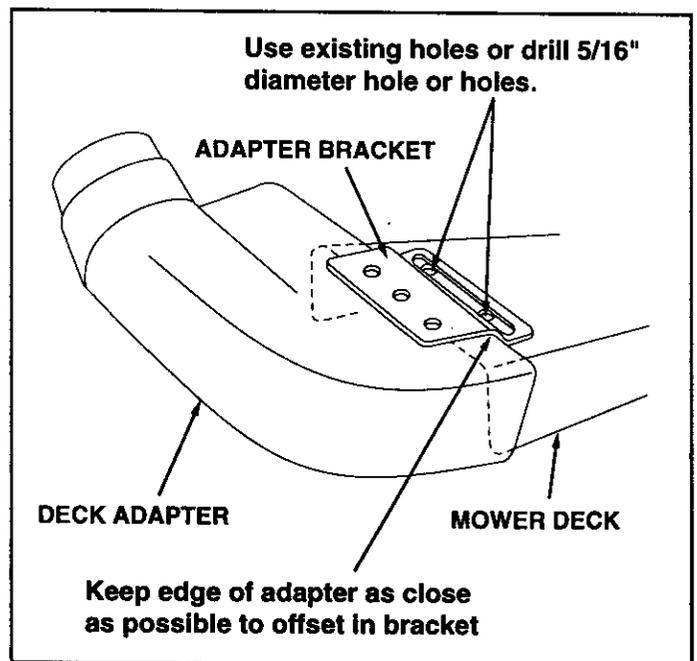

FIGURE 30
- Holding the adapter bracket and the deck adapter together, position the deck adapter on the mower deck. Keeping the edge of deck adapter as close as possible to the offset in the adapter bracket, see if the slot in the adapter bracket can be aligned with one or two of the deflector holes in your mower deck's discharge opening. If the bracket can not be located correctly using existing holes, it will be necessary to drill one or two 5/16" diameter holes in the deck. See figure 30.